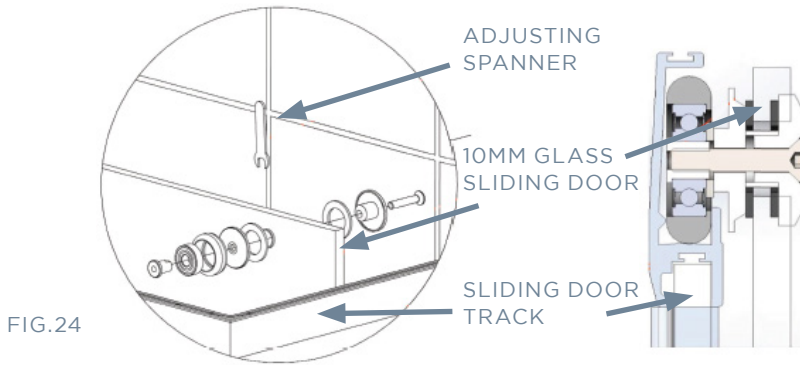

FIG.24
- With the bush and hub pre-assembly in the opposite sides of the holes (FIG 24), place the glass sliding door into position on the wooden wedges, aligning the roller wheel holes at the top of the door as close as possible to align with the rollers in track.
- Use the allen key to engage and screw in the bolt (9, FIG 24).
- Make sure the nylon washers are flat against the glass so no metal contacts the glass (5 & 7, FIG 24).